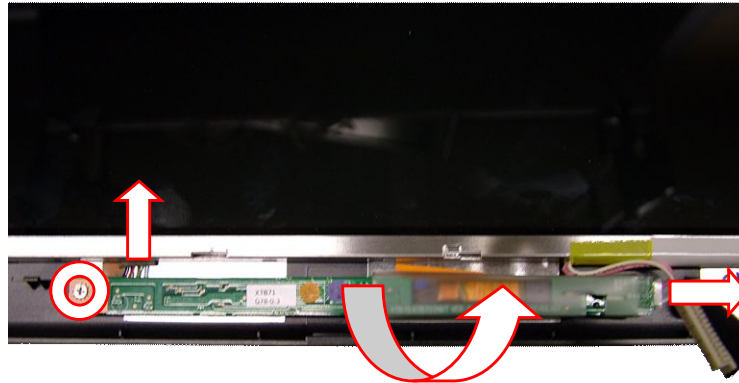

Fig. 37 Location of inverter board screw and connectors.
6. Disconnect the cables from the inverter board (see Fig 37).
1. Disconnect the cables from the inverter board (see Fig 37).